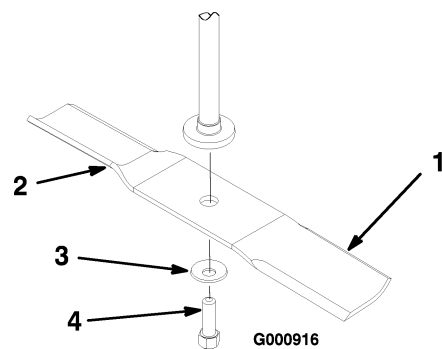

Figure 40
Hold the blade end using a rag or thickly-padded glove. Remove the blade bolt, curved washer, stiffener and blade from the spindle shaft (Figure 40).
1. Install the blade onto the spindle shaft with the stiffener (Figure 40).
2. Install the curved washer (cupped side toward the blade) and blade bolt (Figure 40). Torque the blade bolt to 35-65 ft-lb (47-88 N·m).